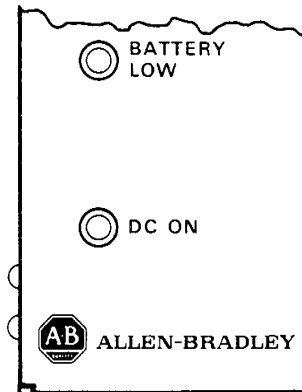

Figure 5.3 — Power Supply Indicators
**5.2.1 Power Supply Indicators** — The front face of the System Power Supply has 2 diagnostic indicators. (Refer to Figure 5.3.) These are labeled: